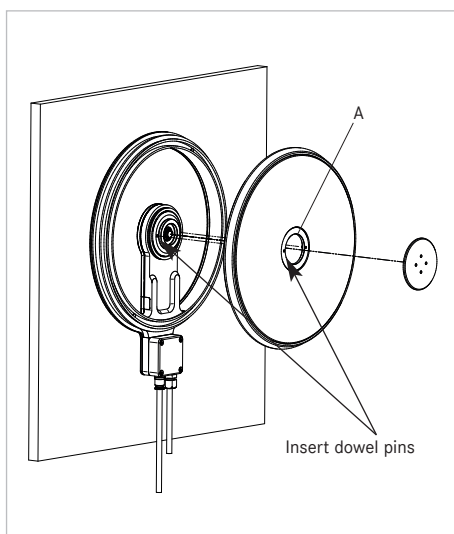

Figure 11: Assembly turntable
Then place the hub hub (A) on the base unit motor, making sure that the rotor hub dowels engage the motor holes (Figure 11, page 15).
Carefully place the screw cap on the threads of the motor to avoid damaging it. For now, tighten them only by hand (clockwise) (Figure 11).